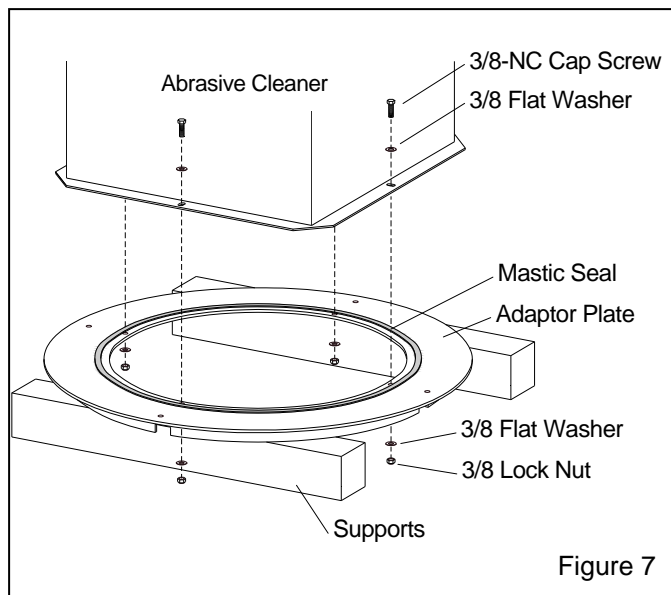

Figure 7
2.4 Installation on 30-inch and 36-inch Diameter Blast Machines, Refer to Figures 7 and 9.
2.4.1 Apply mastic seal around the bolt circle as shown in Figure 7.
2.4.4 Use the cap screws or a drift pin to make sure the bolt holes are aligned as the cleaner is lowered straight down onto the adaptor plate. Realigning the cleaner when it is in place could damage the mastic seal. Install fasteners on all four sides of the cleaner's flange, as shown in Figure 7.